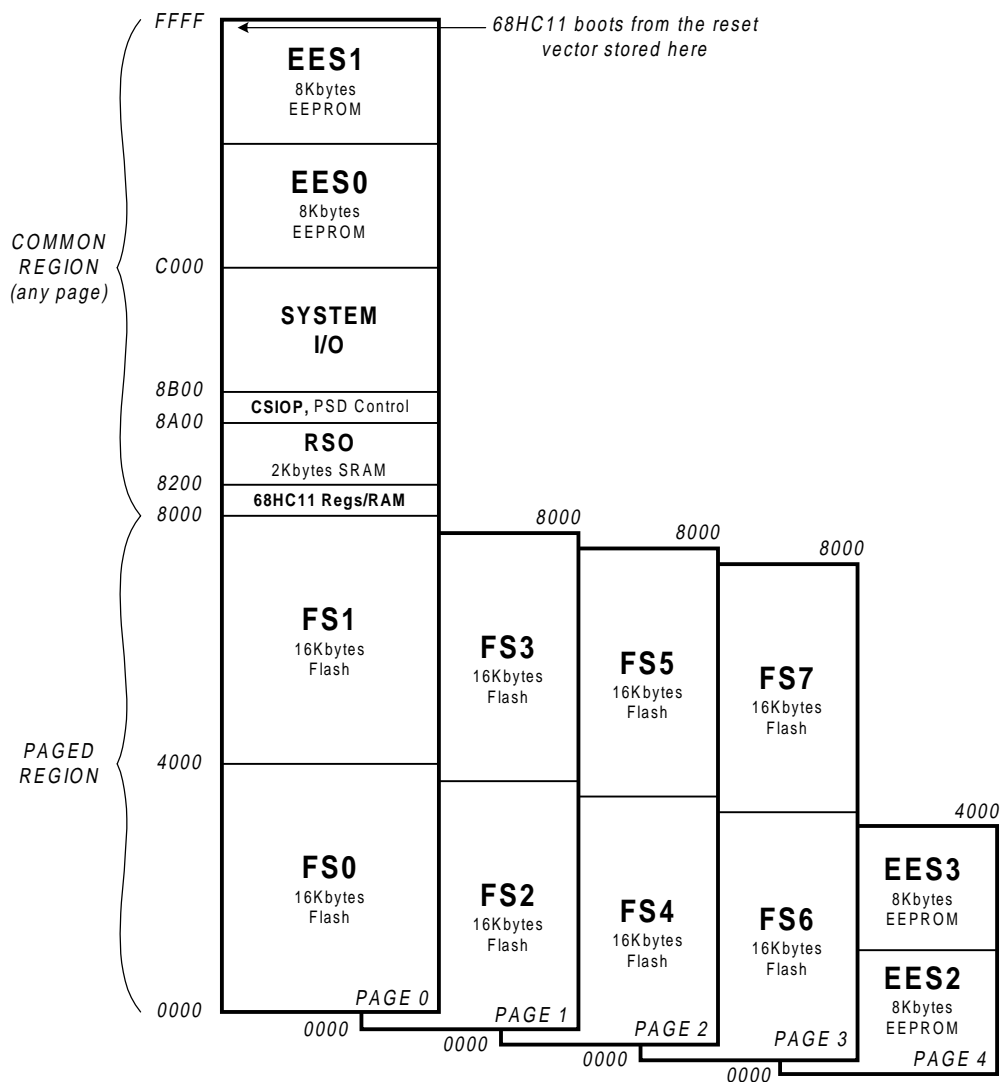

Figure 4 – Memory Map, Simple 68HC11/PSD813F1 design
Since the 68HC11 cannot address more than 64K bytes of address space directly, we will use paging (or banking) to take full advantage of the 162K bytes of total memory on the PSD. The PSD has a built-in page register for this purpose. Please examine the memory map in Figure 4.
To make this division of the memory map possible (i.e. common upper half, paged lower half), the 68HC11 initialization firmware must move the internal 68HC11 SRAM and registers from their default location of 0000h, to the new location of 8000h, as shown in Figure 4. There is a special register in the 68HC11 (the INIT register) that facilitates this move. See the 68HC11 reference manual from Motorola. This move is necessary to “clean-up” the memory map, meaning that the entire region from 0000h – 7FFFh is free to use for paging, once these internal MCU locations are moved up and out of the way to 8000h. Also note that the common area (non-paged) had to be located in the upper half of memory (8000h – FFFFh) because the 68HC11 boots from high memory (FFFEh).
The nomenclature FS0-FS7, EES0-EES3, RS0, and CSIOP in Figure 4 refer to the internal memory segments of the PSD. The main flash memory has eight 16K byte segments (FS0-FS7). The EEPROM has four 8K byte segments (EES0-EES3). The 2K byte SRAM has a single segment (RS0). The internal PSD control registers lie in a 256-byte address space, named CSIOP. You place these PSD memory elements to the desired location within the memory map by writing Hardware Description Language (HDL) equations for the Decode PLD for each memory segment. Equations are written and compiled in the PSDsoft software development environment, using the standard Hardware Description Language, ABEL (called “PSDabel” as packaged in PSDsoft).
- The HDL equations appear for the selection of internal PSD memory segments and the PSD control register. Each memory segment is assigned to an address range according to the memory map of Figure 4.